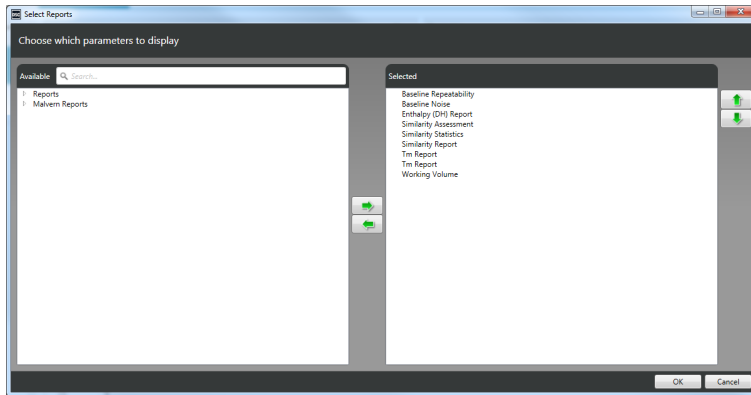

Figure 6.3 Select Reports window
2. In the **Select Reports** window (Figure 6.3), use the  and  buttons to move reports between the **Available** and **Selected** sections.